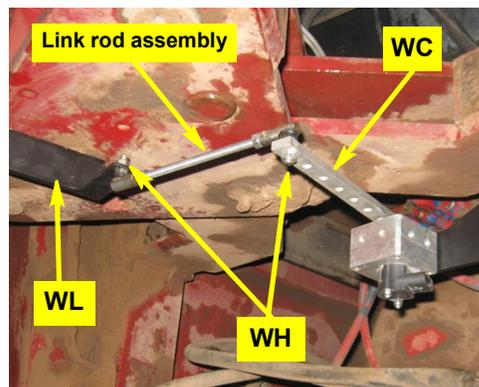

Figure 2d: Installed WAS link rod assembly
- d. Using hardware WH, install the link rod assembly from step 1 between the last hole in WAS arm WC and bracket WL. Set the swivel stud downward into WC and upward into WL (Figure 2d - leave swivel nuts WH loose until you complete linkage adjustment at step 2f.).